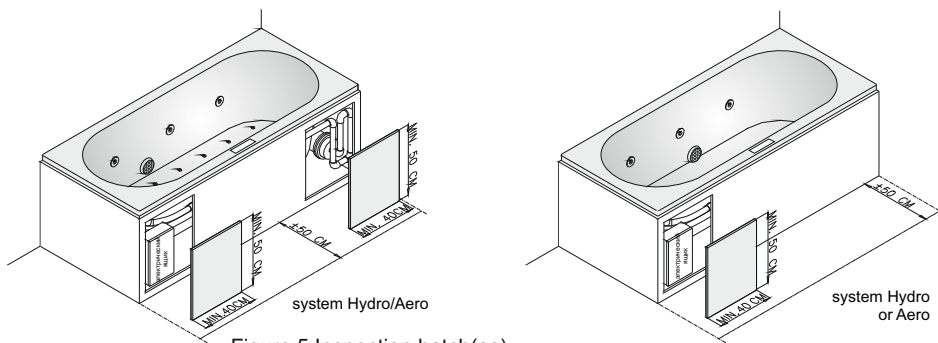

Figure 5 Inspection hatch(es)
- Inspection hatch(es) of at least 40 x 50cm for service access (at least to the motors). In front of the openings, a space of at least 50 cm width must be freely accessible for access to the technique - see Figure 5. Riho recommends that an inspection hatch should be placed near the overflow opening.
To enable maintenance the tub panel or wall must be fitted with a splash-proof hatch with a size of at least 40x50cm. Such an opening must be positioned close to each engine and heater. In front of the openings, a space of at least 50 cm wide for access to the electronics must be freely accessible. See figure 5. See the RIHO Technical Catalog for the exact position of the holes. The Riho maintenance service cannot service the motors if there are no inspection hatches or if the hatches are too small. For the best accessibility to the system Riho advises you use cover front panels (if available for the bath type).